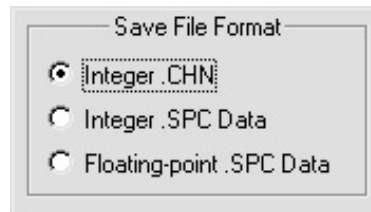

Figure 53. Radio Buttons.
- **Radio buttons** (Fig. 53) appear on many GammaVision dialogs, and allow only one of the choices to be selected.